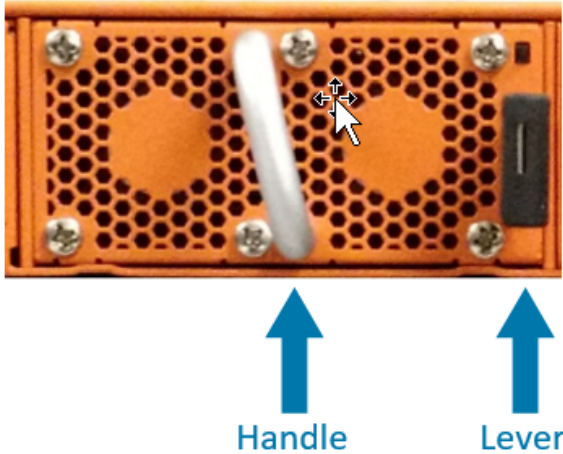

Figure 13 Replacing a Fan (GigaVUE TA Series-TA10 Shown)
1. Locate lever and handle as shown in Figure 13 Replacing a Fan \(GigaVUE TA Series-TA10 Shown\).